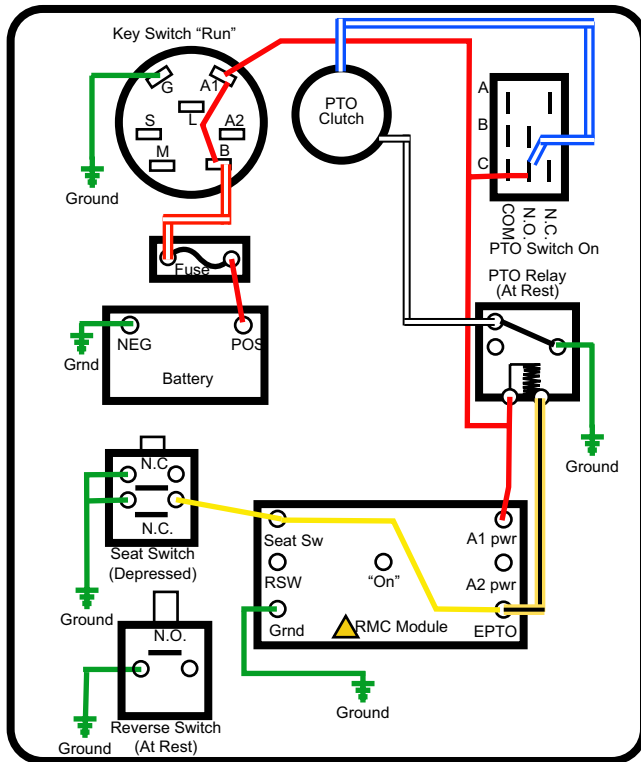

Figure 7.34
2. The seat switch contains two sets of contacts. The set with the yellow wire leads to ground when the contacts of the seat switch are closed. See Figure 7.34.